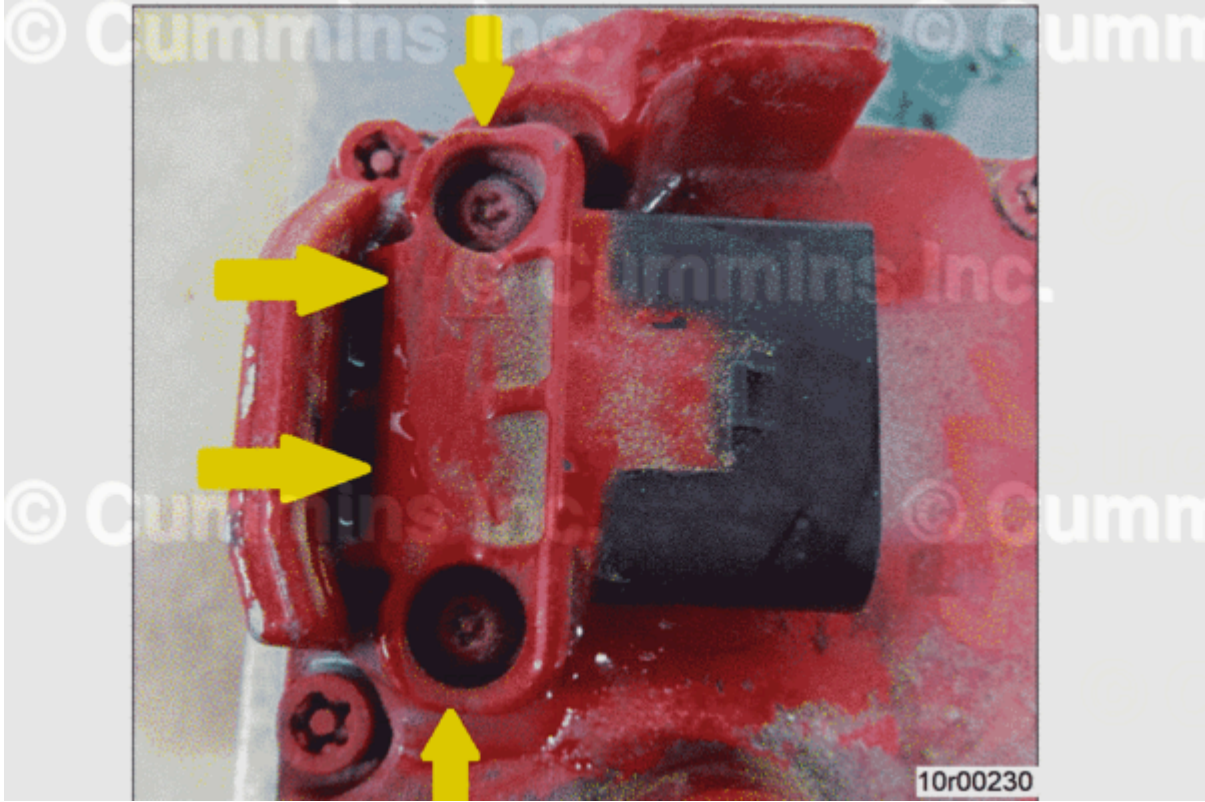

Figure 11, Permatex® Silicone Application Path.
1. Apply Permatex® silicone, Part Number 81730-1, around the plastic VGT actuator connector body. See Figure 11 above.